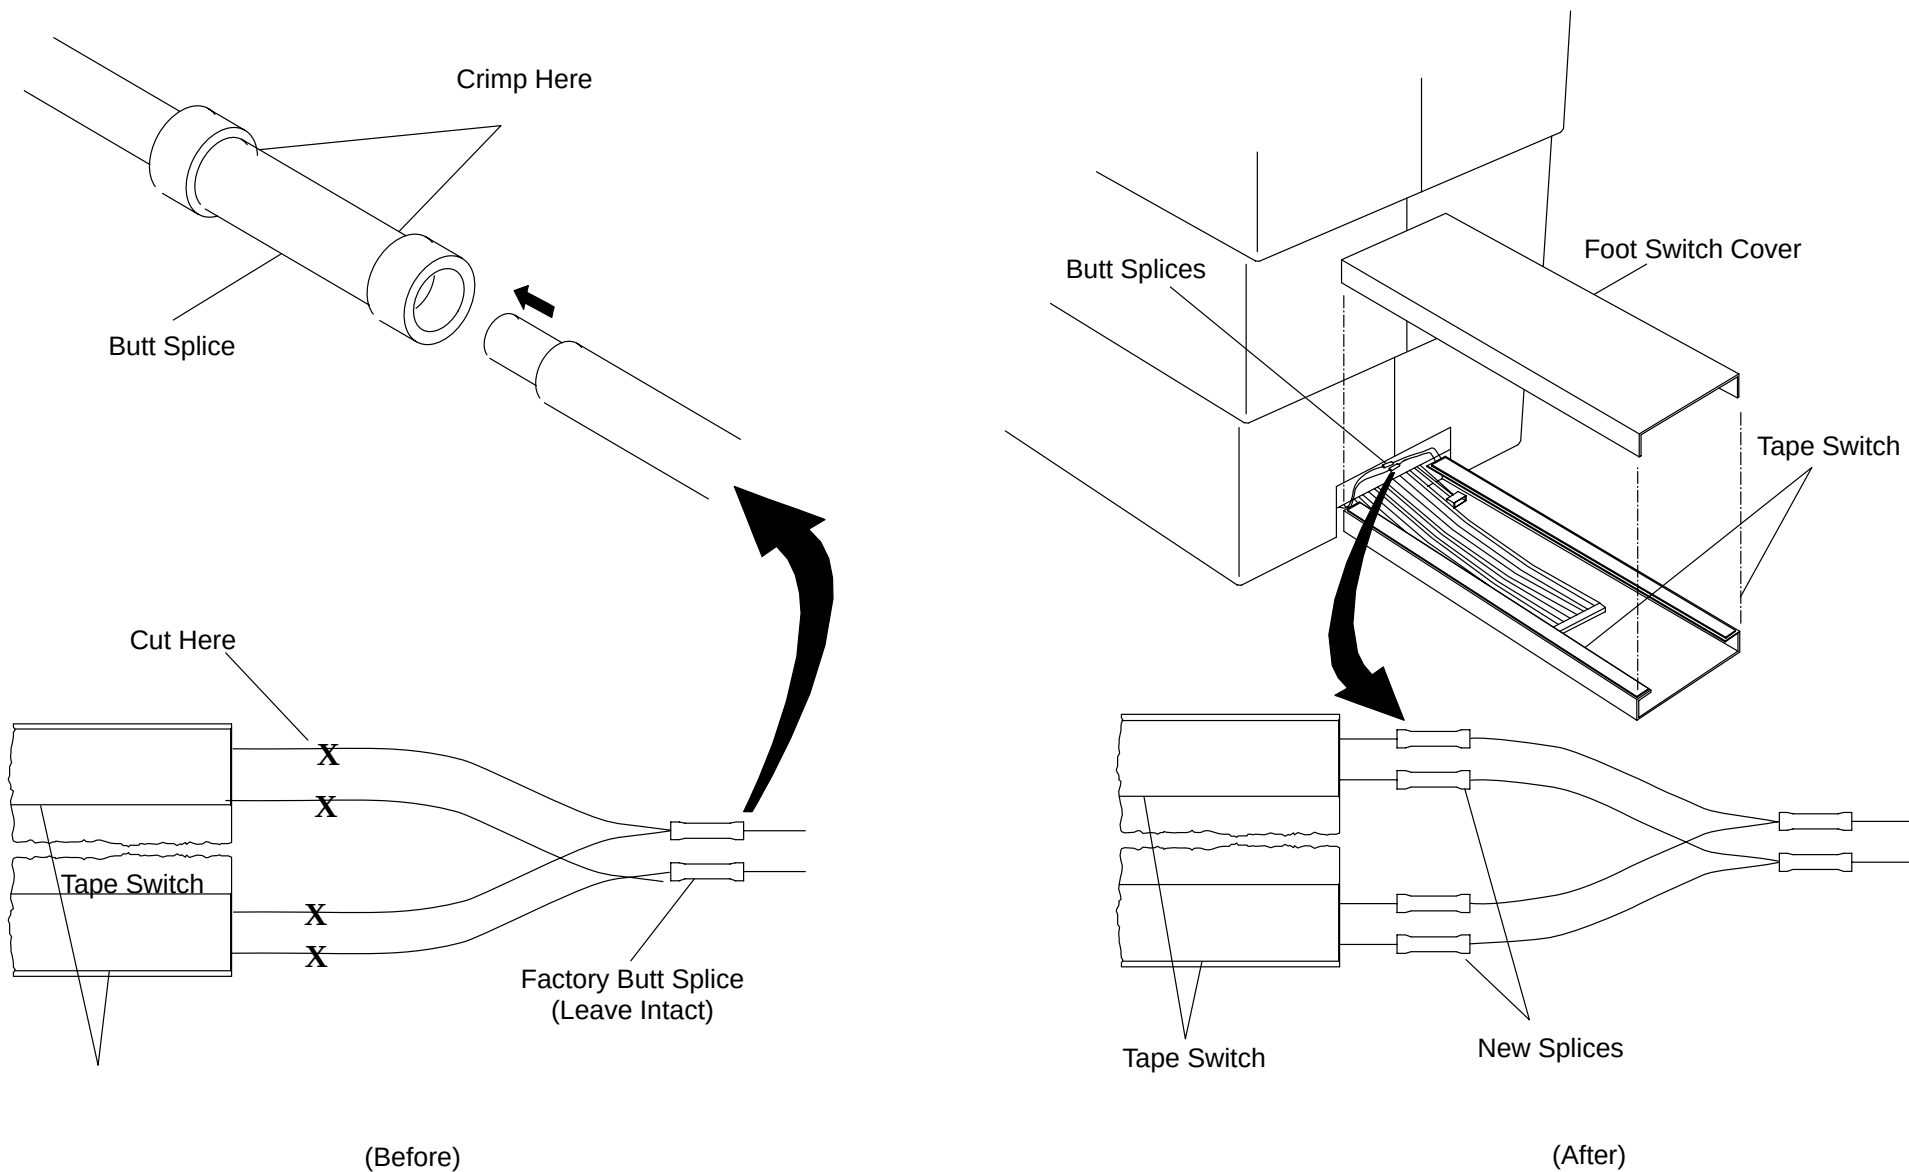

FIGURE 198 PATIENT SUPPORT FOOT SWITCH
4. Remove the two screws and Washers that attach the Foot Switch Cover to its base. Grasp both sides of the Cover and pull it straight off. See Figure 198.